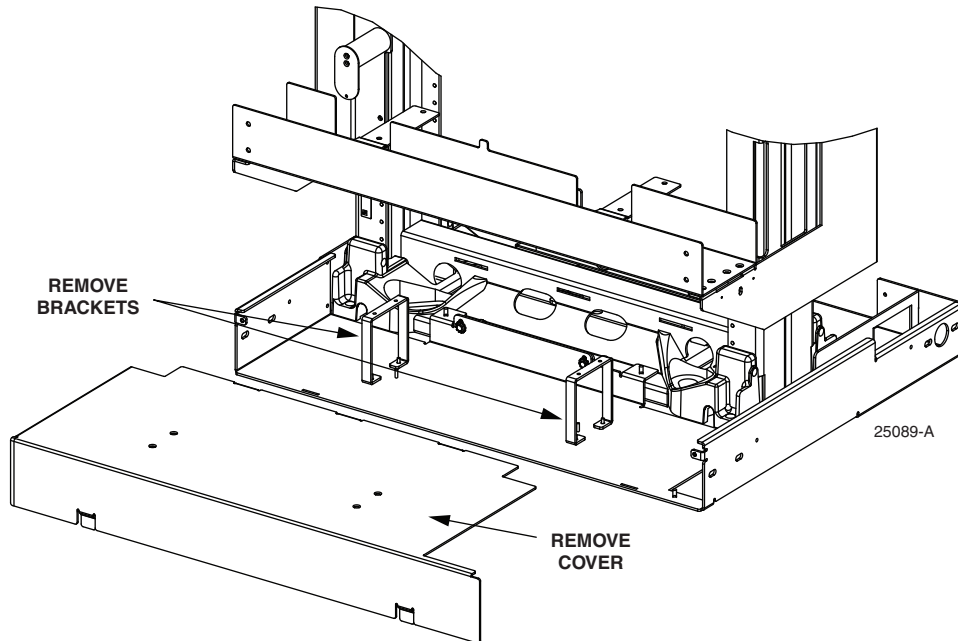

Figure 4. Removing the Frame Bottom Cover and Brackets
1. Remove the frame bottom cover and the two brackets below the cover. Refer to Figure 4. These items may be discarded after they are removed.